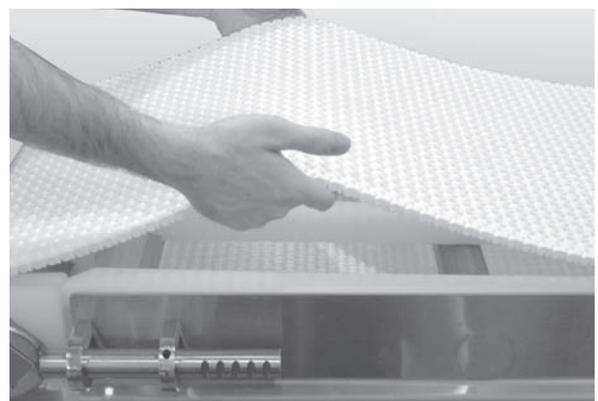

Figure 48
3. Lift up on the belt (Figure 48).